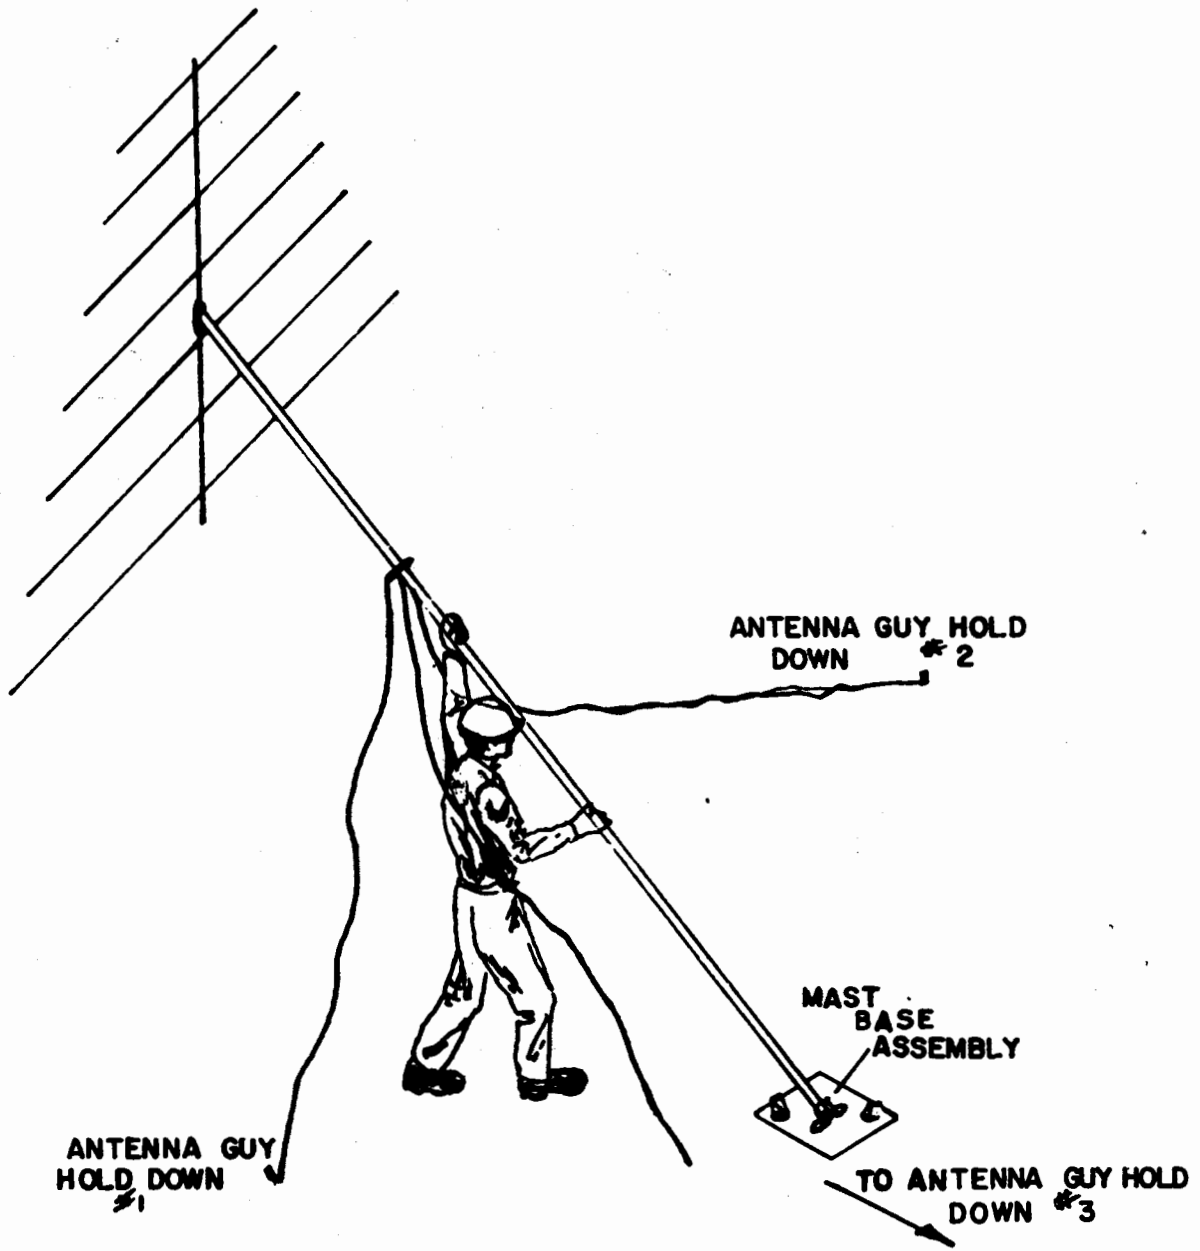

Figure 1-12 Raising of Antenna
1. One man stands on the mast base assembly, holding the loose guy rope. The second man lifts up the mast just below the antenna assembly and walks toward the first man, pushing the mast into the vertical position as he goes. As the mast approaches vertical, the first man aids erection by keeping tension on the loose guy rope, until he can attach guy to antenna guy holddown #3. Readjust guy ropes for vertical alignment of mast. Rotate the antenna to the direction of propagation by loosening wing nut at base and rotating the mast. When the antenna is properly positioned, tighten the wing nut. Refer to Figure 1-12.